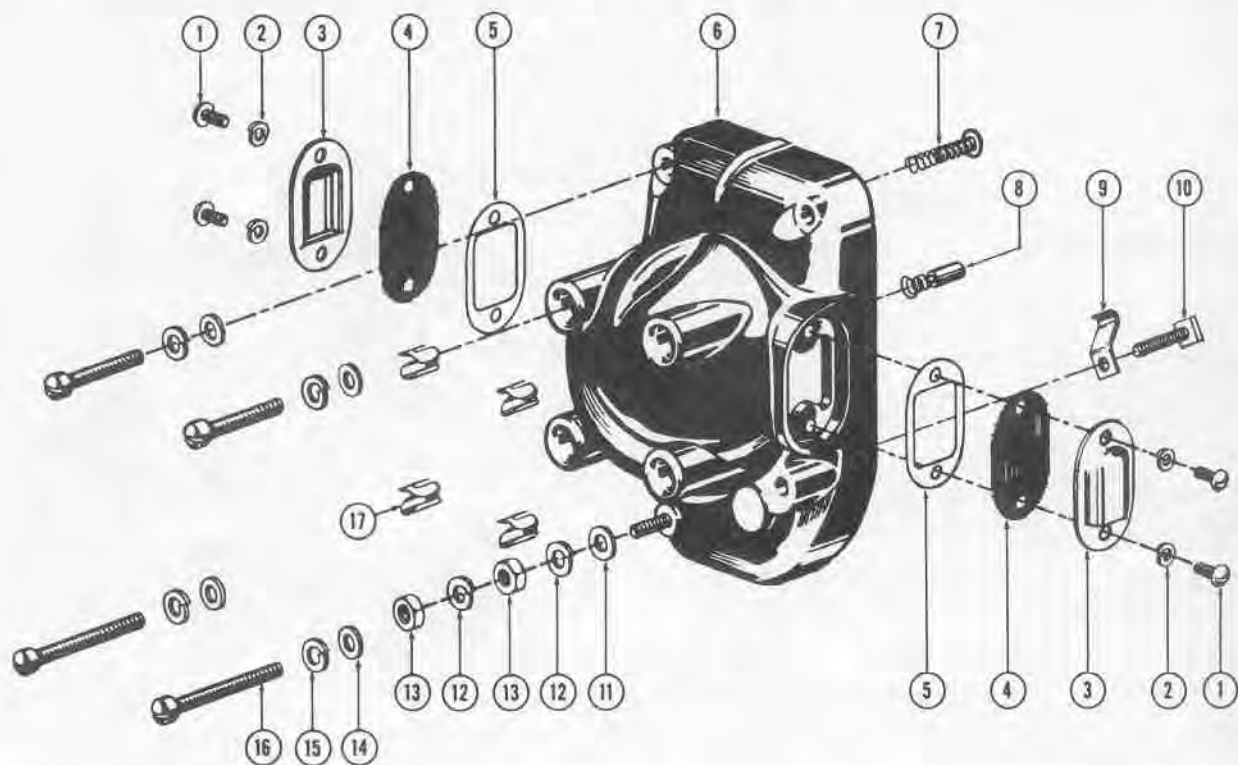

Figure 13. Model AM-4 Distributor Plate Assembly
(See figure 13). Remove the four screws (16), lockwashers (15) and plain washers (14), noting that two screws are longer than the others. Slide the distributor plate (6) off the magneto, noting the dowel pins used for positioning. Remove and inspect the